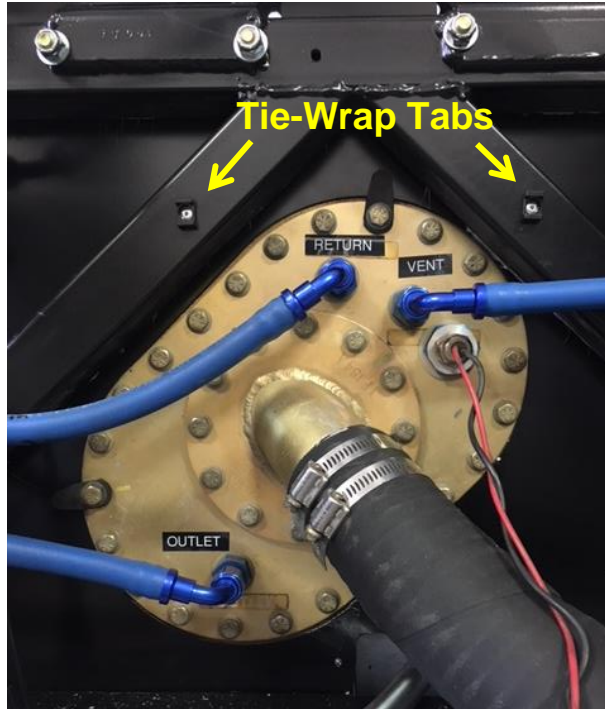

Figure 38 – EFI Harness Tabs Engine Bay
1. Place two Tie-Wrap Tabs on the diagonal tubes about 3" below the cross-frame rail. (See Figure 38) Drill holes with a #30 bit and then pop rivet them in place using 1/8" aluminum rivets (Part# 1001835). Rout the ECU harness to the Master Power switch and tie-wrap them to the frame.